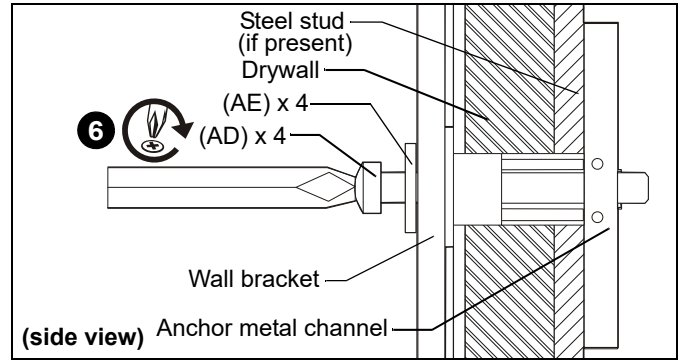

Figure 24
6. Insert 1/4-20 x 1-3/4" Phillips pan head screw (AD) through 1/4" washer (AE), corresponding mounting hole in wall bracket and into anchor (AC), and tighten until flush against wall bracket. DO NOT over tighten! (See Figure 24)